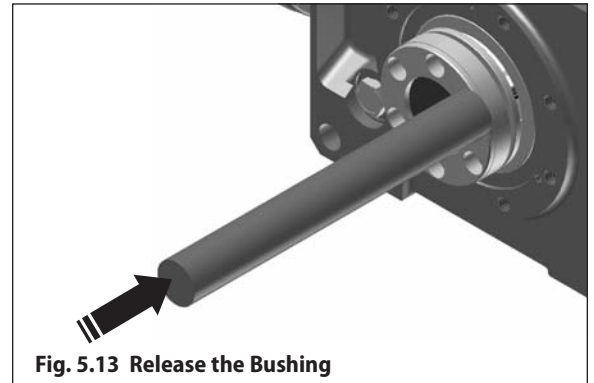

Fig. 5.13 Release the Bushing
**Step 6** – Place a copper or brass bar against the flange of the Taper-Grip® Bushing and carefully strike end of bar with a hammer to release bushing (see Fig 5.13).